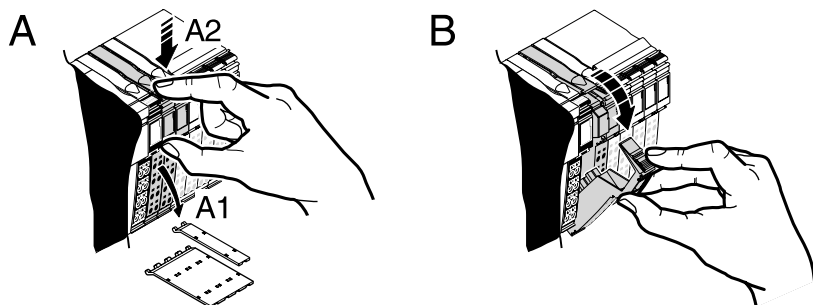

Fig. 10-18: Removing the labeling field and connectors
1. Remove the labeling field if present (A1 in figure 10-18).
2. Lever the connector of the terminal to be removed by pressing on the rear connector shaft latching (A2 in figure 10-18).
3. Remove the connector (B in figure 10-18).